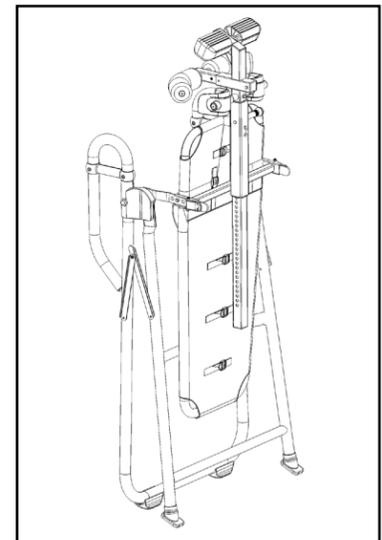

Figure 20
- The legs of the A-frame base may then be folded together for compact storage. (See Figure 20).